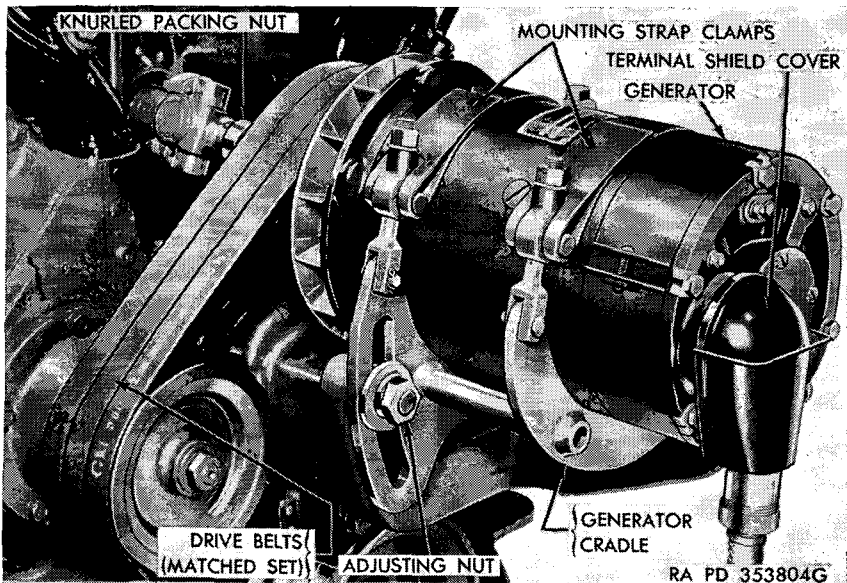

Figure 88. Generator installed.
- (4) *Remove generator.* Remove two nuts and spacers holding generator mounting strap clamps to cradle clevis (fig. 88) and swing clamps back. Remove terminal shield and disconnect generator cables. Lift generator out of cradle.